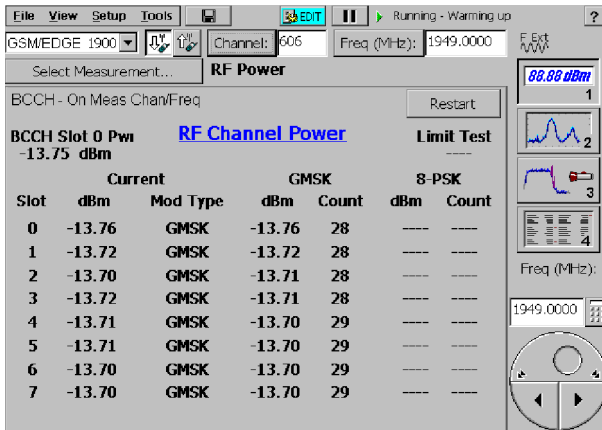

Figure 3-34: GSM/EDGE RF Power measurement
5. Tap **RF Power**. See Figure 3-34.